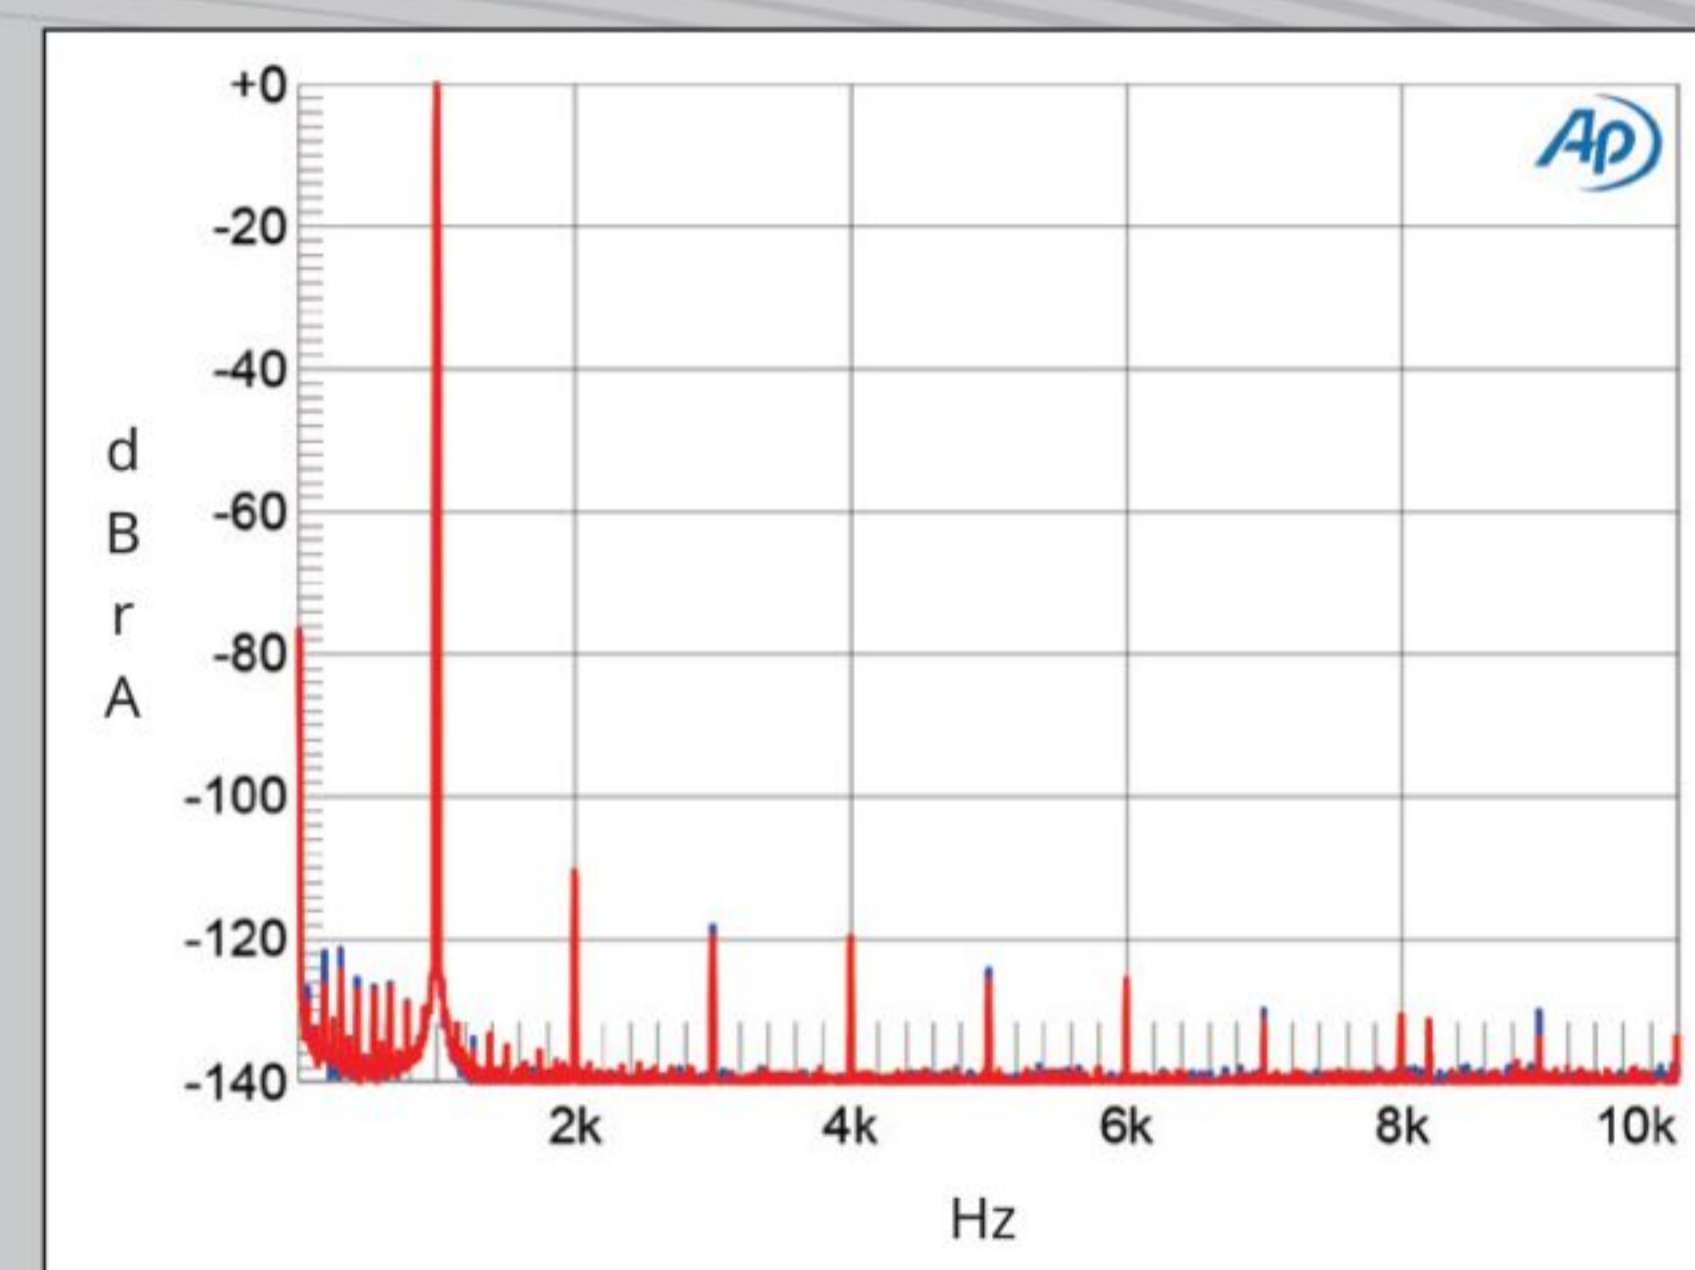
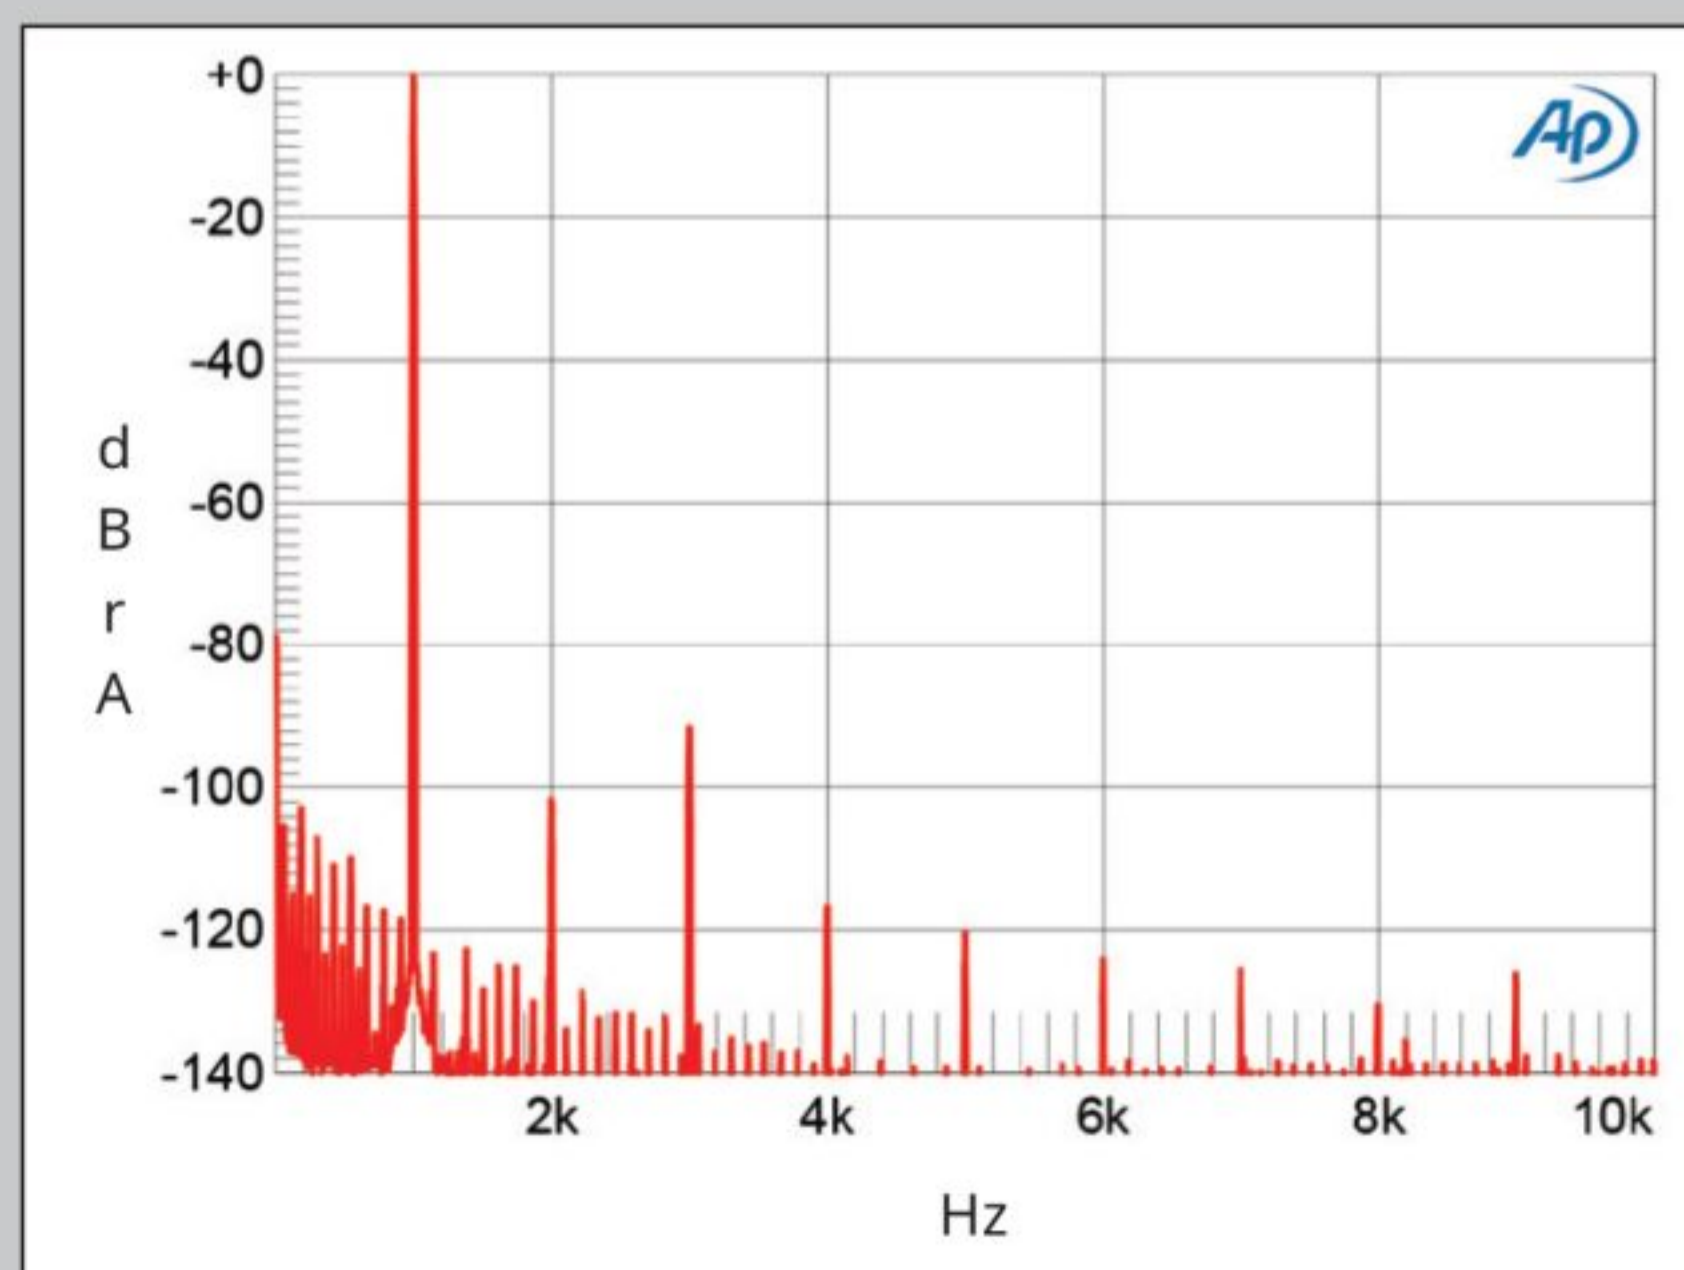
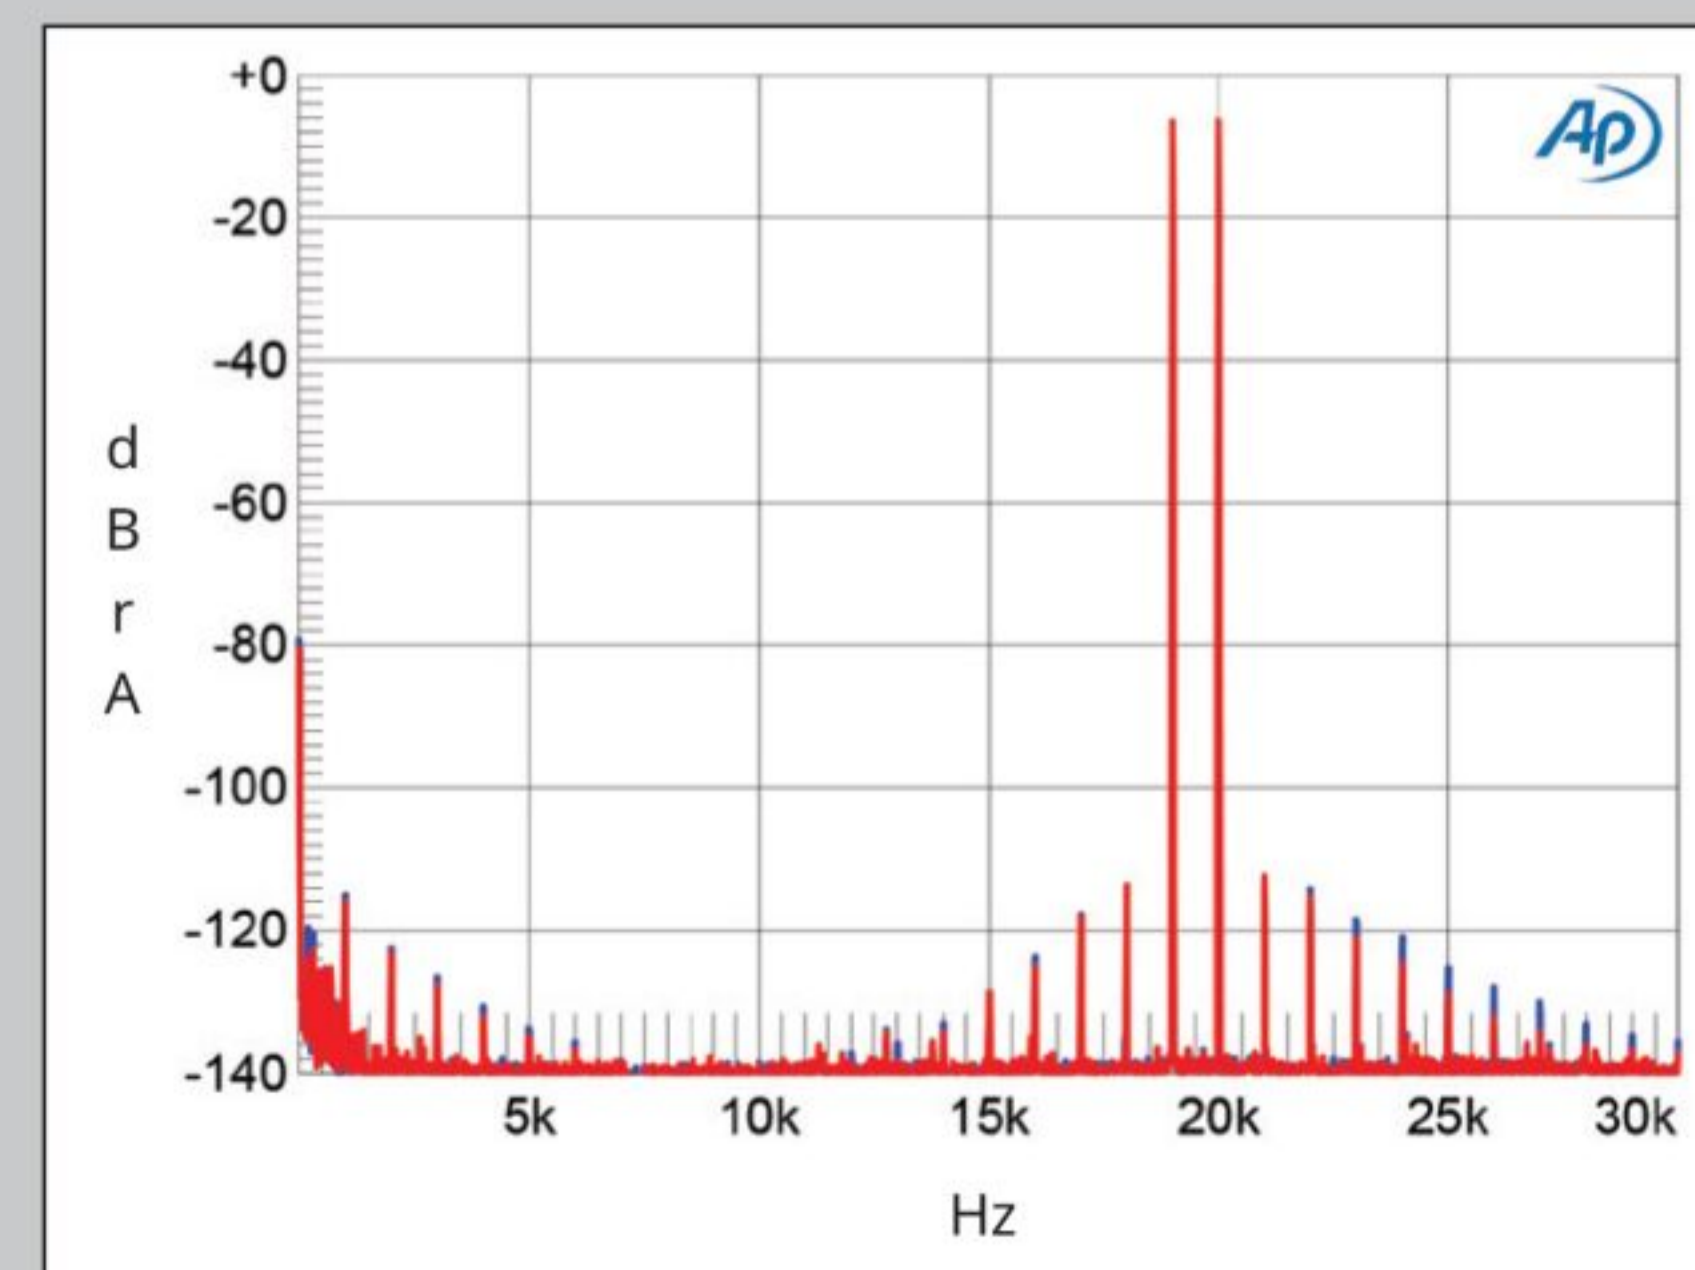

Fig.11 Moon 861, stereo mode, spectrum of 1kHz sine wave, DC-10kHz, at 50Wpc into 8 ohms (left channel blue, right red; linear frequency scale).
Fig.12 Moon 861, mono mode, spectrum of 1kHz sine wave, DC-10kHz, at 200W into 4 ohms (linear frequency scale).
Fig.13 Moon 861, stereo mode, HF intermodulation spectrum, DC-30kHz, 19+20kHz at 60W peak into 4 ohms (left channel blue, right red; linear frequency scale).
The distortion waveform in stereo mode was predominantly the second harmonic (fig.10), at a negligible -110dB (0.0003%) ref. 50W into 8 ohms (fig.11). While higher-order harmonics are present, these all lie at or below -120dB (0.0001%). The third harmonic was the highest in level in mono mode,⁵ but even into 4 ohms lay at just -90dB ref. 200W (0.003%, fig.12). Intermodulation distortion was also very low, the 1kHz difference product resulting from an equal mix of 19 and 20kHz tones at 50Wpc peak into 8 ohms lying at just -120dB in stereo mode (not shown), rising just 6dB at the same voltage into 4 ohms (fig.13). Even with the same signal at 28.3V into 4 ohms in mono mode, the intermodulation products were not significantly higher in level (not shown).